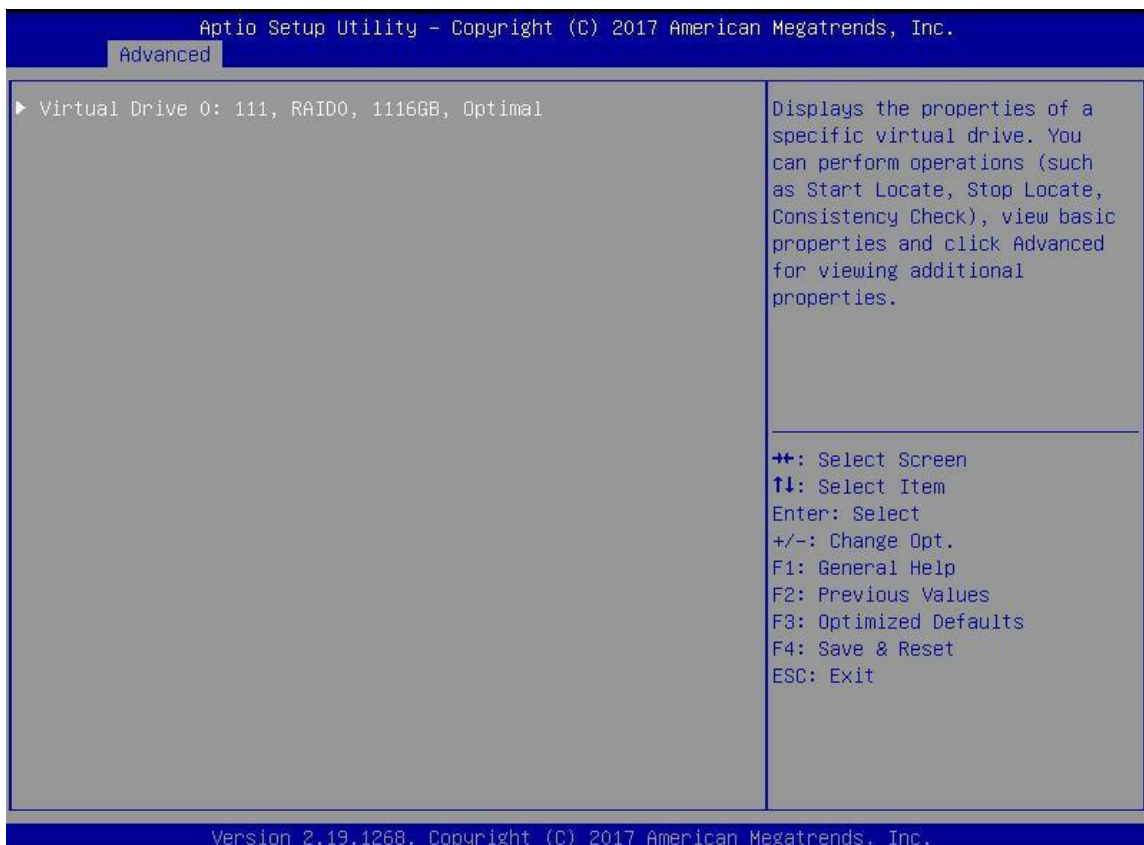

Figure 6-42
- b) Enter the interface shown in figure 6-42, select the logical disk to be initialized, and press enter.